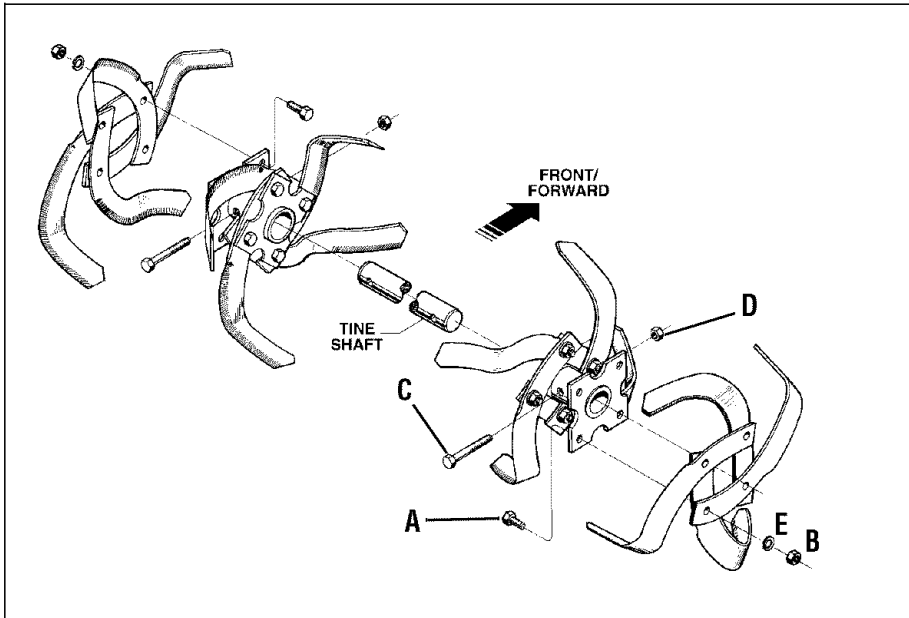

Figure 5-3: Install tines so that cutting edge of tines enter soil first when tiller moves forward.
1. With the engine shut off and the spark plug wire disconnected, remove the two screws (A, Figure 5-3), lock washers (E) and nuts (B) that attach a single tine to a tine holder. If needed, use penetrating oil on the nuts.
2. If removing both tine assemblies, mark them “left” and “right” before removal. Remove the screw (C, Figure 5-3), lock washer (E) and locknut (D) that secure the tine assembly to the tine shaft. If necessary, use a rubber mallet to tap the tine assembly outward off the shaft.